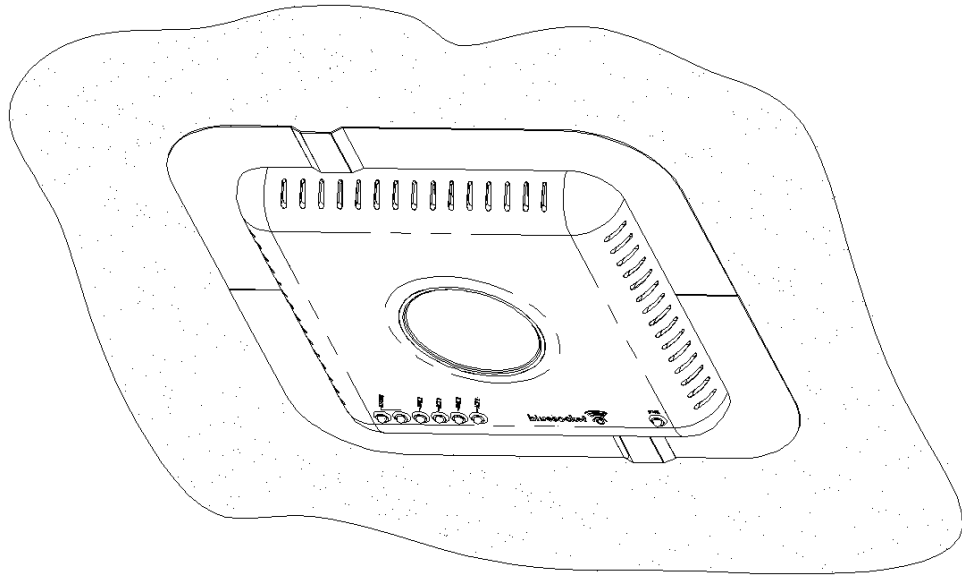

**Figure 9: Side Mounting Bracket Installation**
- Turn BSAP-1800 unit over and place ceiling tile over the unit as shown in Figure 9. The Trim Plates will aid in tiles correct position. Next attach the Side Mounting Brackets to the Rear Mounting Plate using the 6-32 screws with the external tooth washers attached.